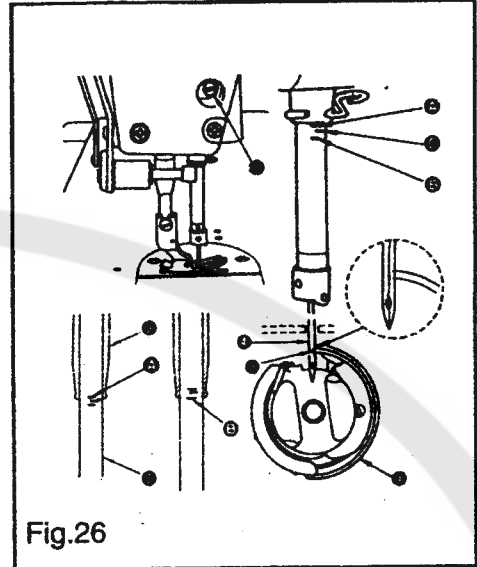

Fig.26
- ① Loosen screw ② of crank ③
- ② Move the feed bar up or down to make adjustment.
- ③ Securely tighten screw ② .
22.NEEDLE-TO -HOOK RELATIONSHIP(Fig. 26)